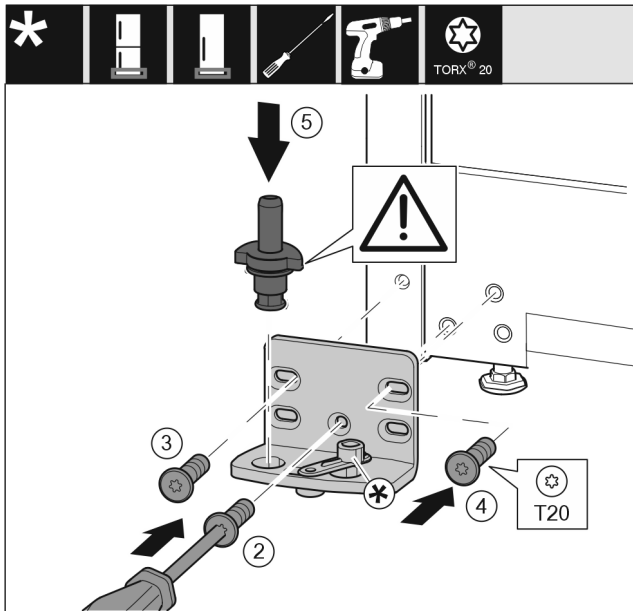

Fig. 19
- Place the swap bearing block on the other side and use a screwdriver to screw it on. Start with the screw Fig. 19 (2) at the bottom in the middle.
- Tighten screw Fig. 19 (3) and screw Fig. 19 (4).
- Insert the bearing bolt Fig. 19 (5) completely. Ensure that the latching cam is pointing towards the rear.